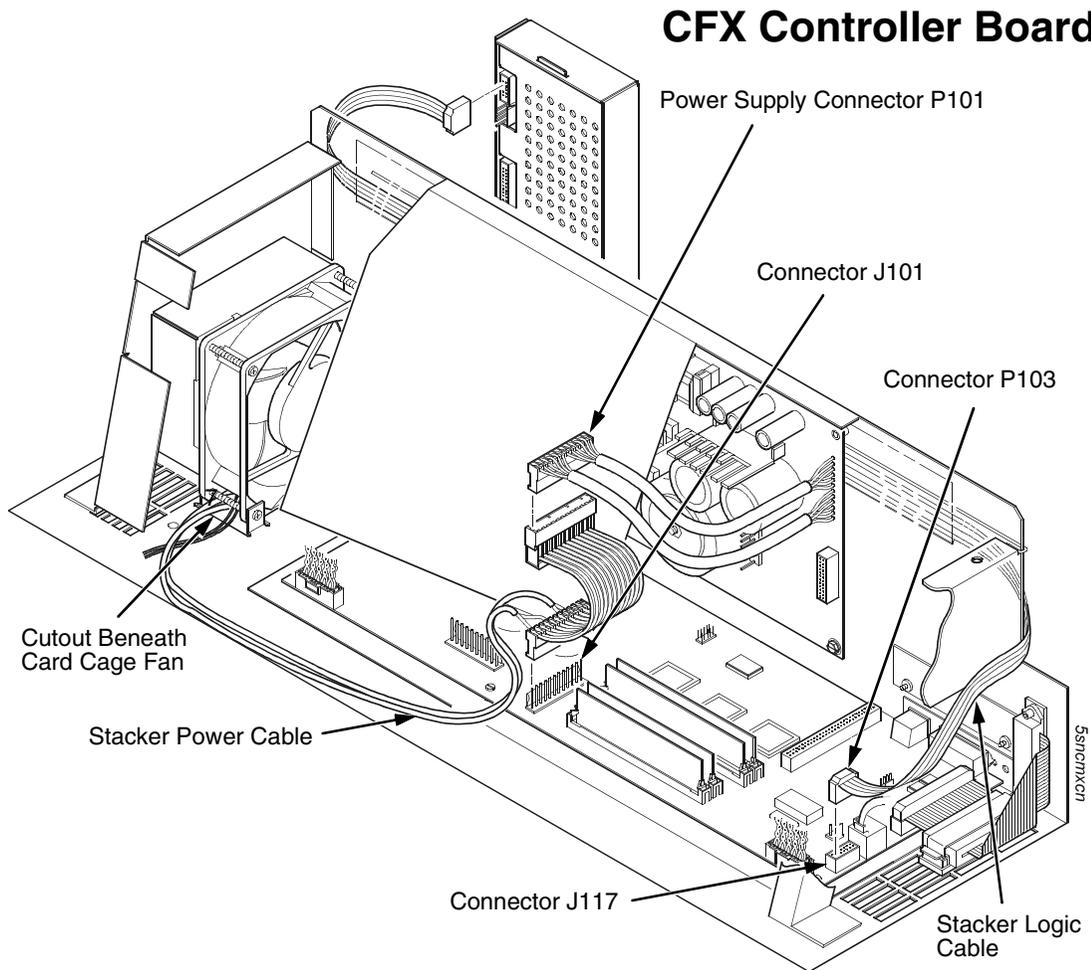

Figure 79. Stacker Power and Logic Connections on the Controller Board
1. Connect the power stacker logic cable P103 to connector J17 on the controller board. (Figure 79.)
2. Disconnect the power supply cable from connector J101 on the controller board. (Figure 79.)
3. Connect power supply cable connector P101 to the stacker power cable, then connect the stacker power cable to connector J101 on the controller board. (Figure 79.)
4. Route the stacker power cable in front of the controller board and down through the cutout under the card cage fan. (Figure 79.)
5. Route the stacker logic cable through the opening between the card cage and the cabinet frame and behind the card cage. (Figure 79.)